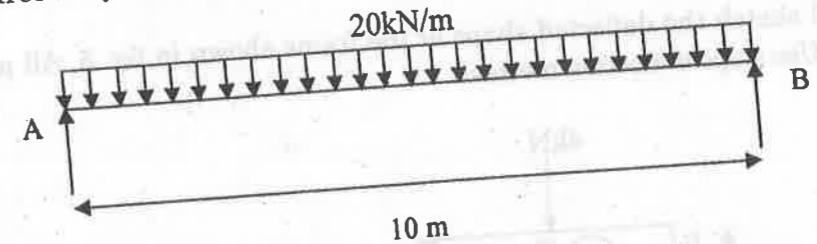

Fig. 1
6. Draw the free body diagram for the simply supported beam shown in the fig. 1